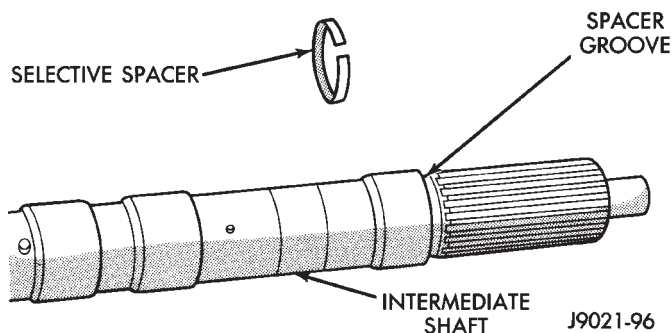

Fig. 34 Intermediate Shaft Selective Spacer Location
(6) Install selective spacer on intermediate shaft, if removed. Spacer goes in groove just rearward of shaft rear splines (Fig. 34).